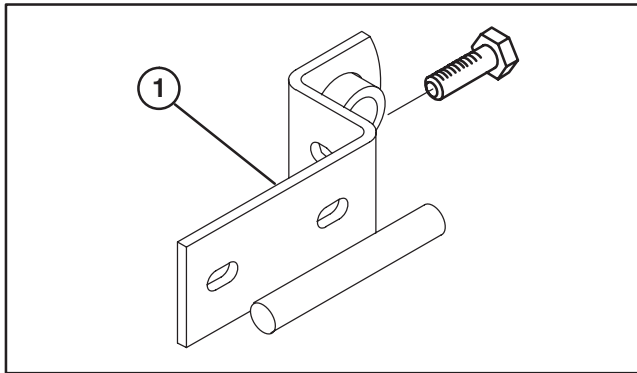

Figure 6
7. Insert a 5/16–18 x 7/8” lg. capscrew into rear mounting hole of left rear pivot bracket (Fig. 6).